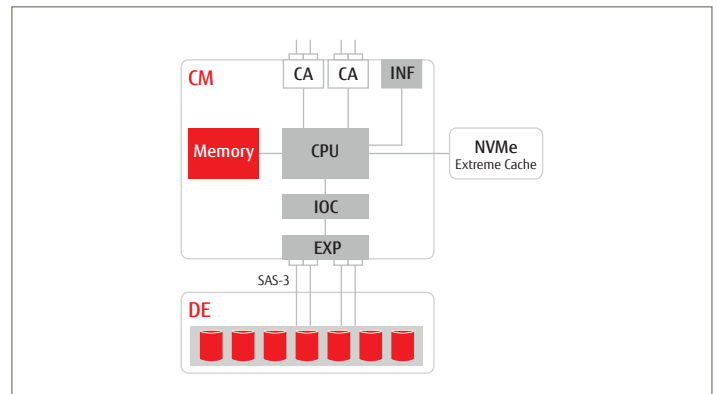

Figure 2 – NVMe Extreme Cache
Figure 2 shows the schematic architecture of an ETERNUS DX8900 S4 Controller Module (CM). The basic functional blocks are the Intel Xeon processor which runs the firmware-based operating system, DRAM System Memory including the Data Cache and the Channel Adapters (CA) which realize the connection to the hosts. Each Controller Module connects to a maximum number of 15 Drive Enclosures (DE). The Drive Enclosures are connected via SAS-3 redundant paths to the SAS Expanders (EXP) in the Controller Modules. The four-ported PCIe 3.0 Interface (INF) realizes the high-bandwidth connectivity to the Front-end Routers.